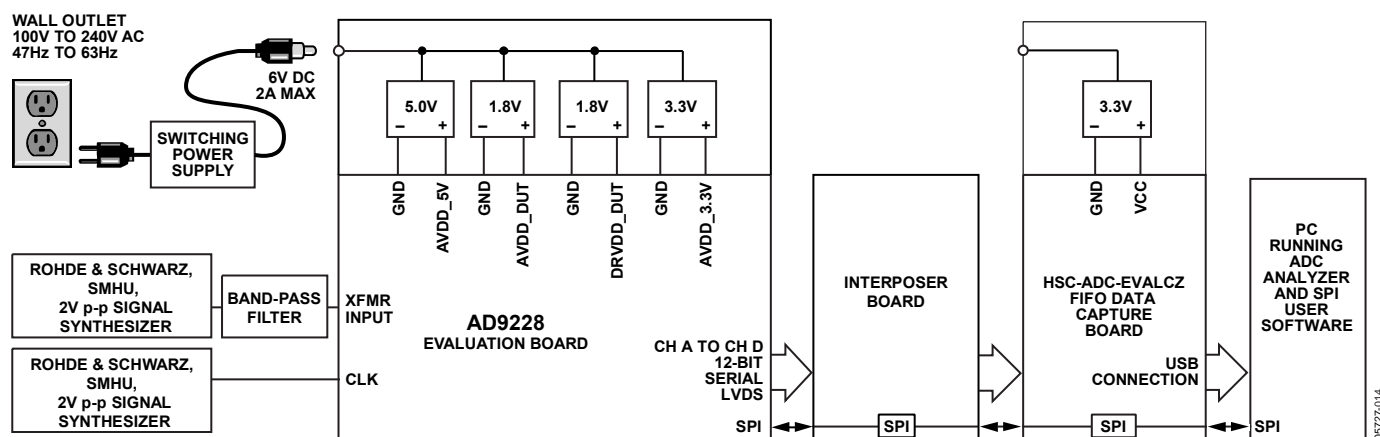
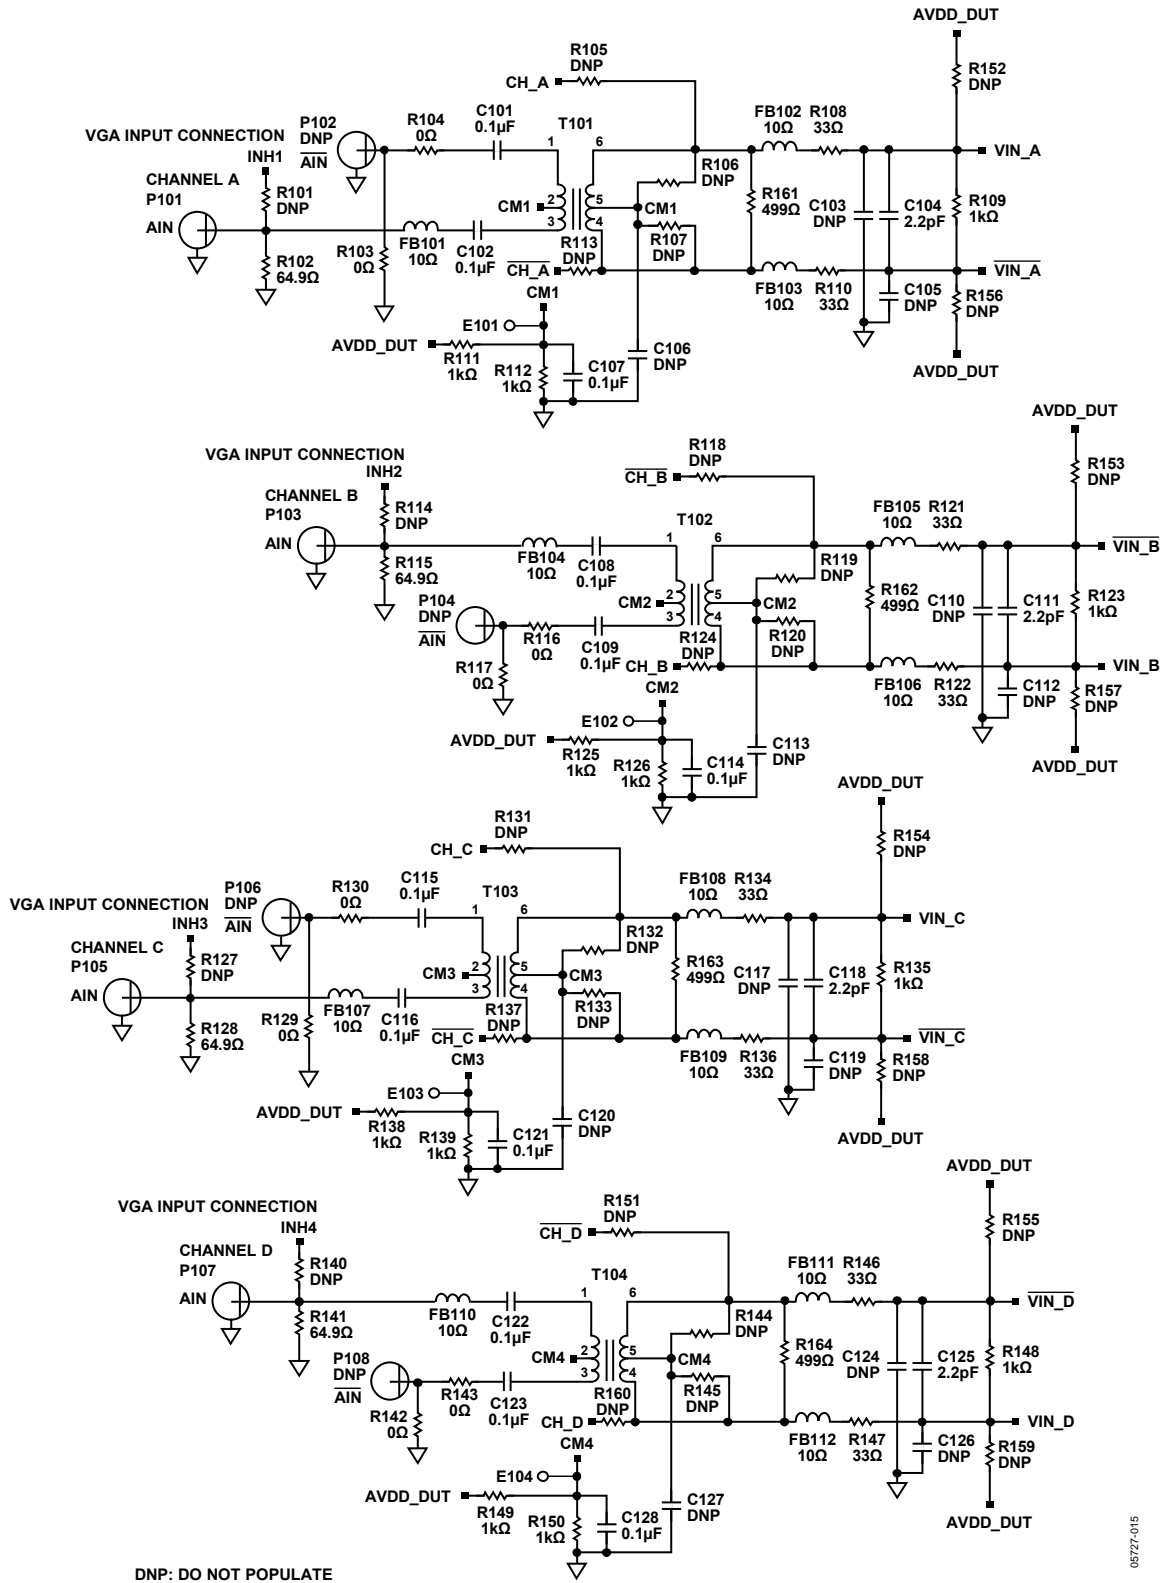
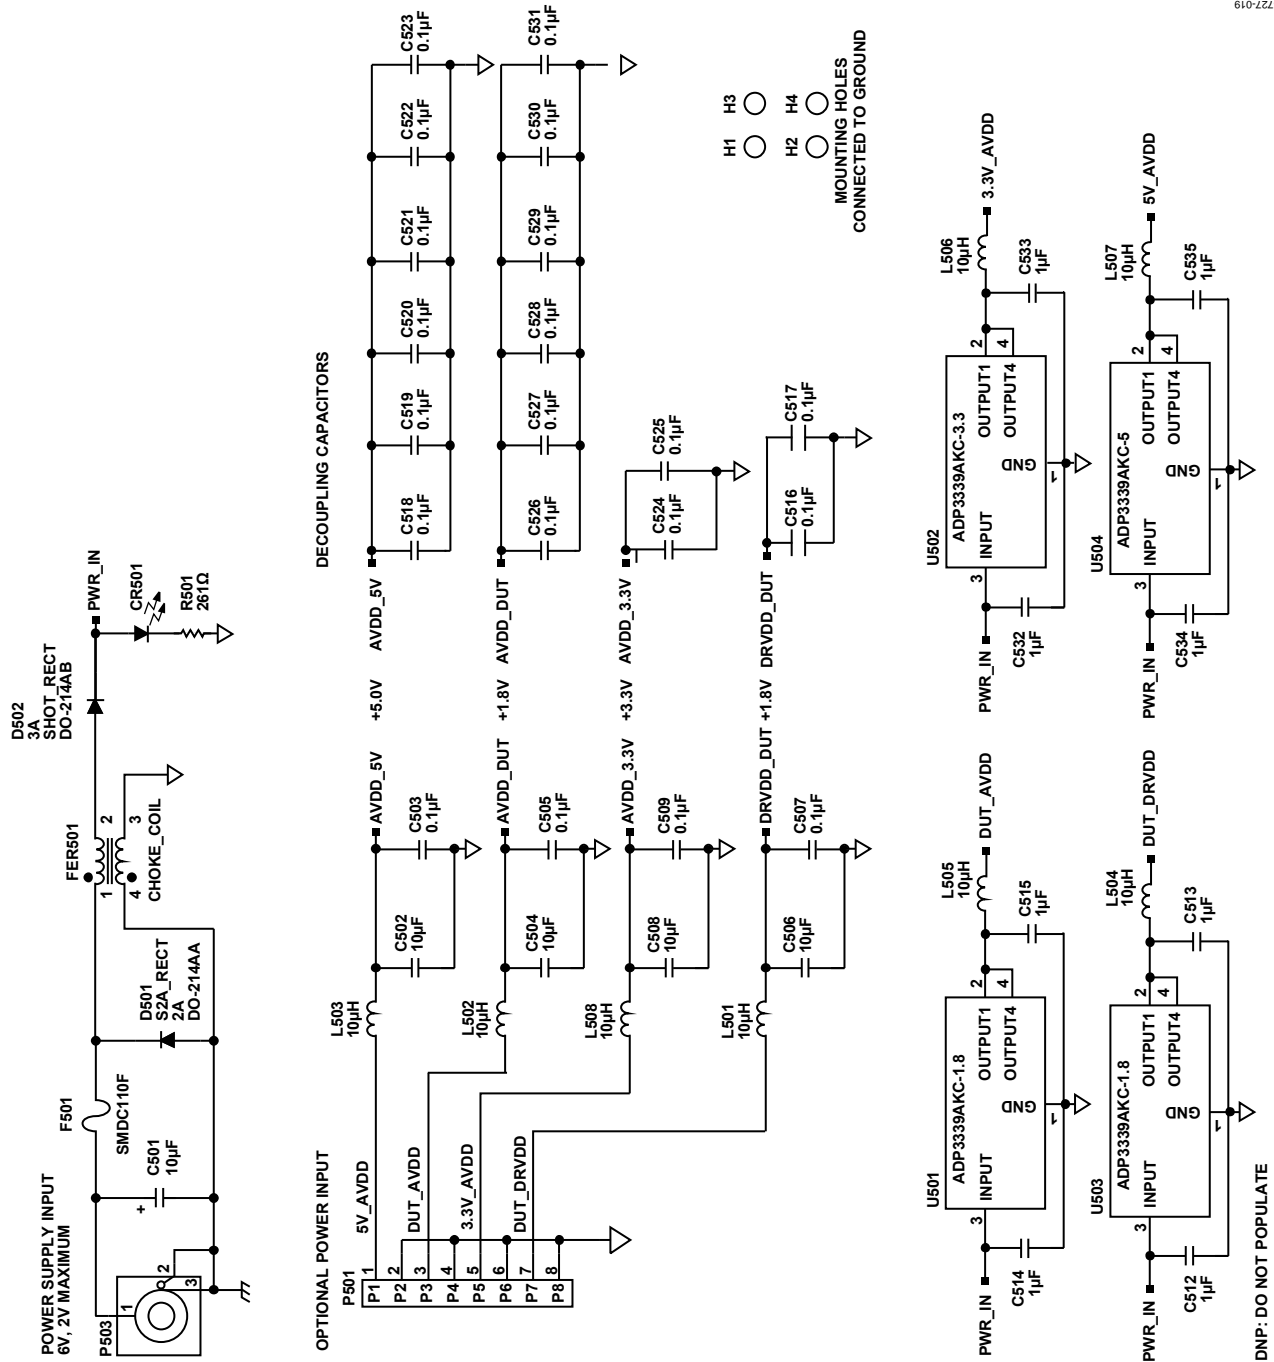
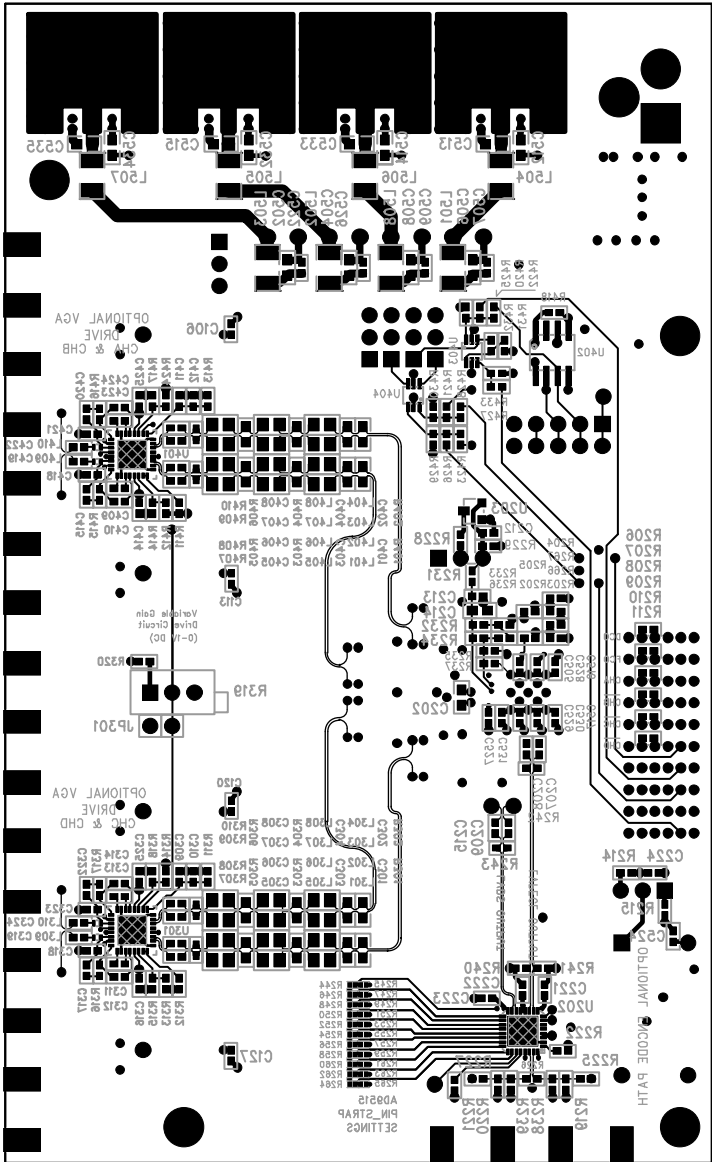

Figure 71. Evaluation Board Connection
Figure 73. Evaluation Board Schematic, DUT Analog Inputs
Figure 77. Evaluation Board Schematic, Power Supply Inputs
Figure 81. Evaluation Board Layout, Secondary Side (Mirrored Image)
The AD9228 evaluation board provides all of the support circuitry required to operate the ADC in its various modes and configurations. The converter can be driven differentially using a transformer (default) or an AD8332 driver. The ADC can also be driven in a single-ended fashion. Separate power pins are provided to isolate the DUT from the drive circuitry of the AD8332. Each input configuration can be selected by changing the connection of various jumpers (see Figure 73 to Figure 77). Figure 71 shows the typical bench characterization setup used to evaluate the ac performance of the AD9228. It is critical that the signal sources used for the analog input and clock have very low phase noise (<1 ps rms jitter) to realize the optimum performance of the converter. Proper filtering of the analog input signal to remove harmonics and lower the integrated or broadband noise at the input is also necessary to achieve the specified noise performance.
See Figure 73 to Figure 81 for the complete schematics and layout diagrams demonstrating the routing and grounding techniques that should be applied at the system level.
- **D + x, D - x:** If an alternative data capture method to the setup shown in Figure 73 is used, optional receiver terminations, R206 to R211, can be installed next to the high speed back-plane connector.